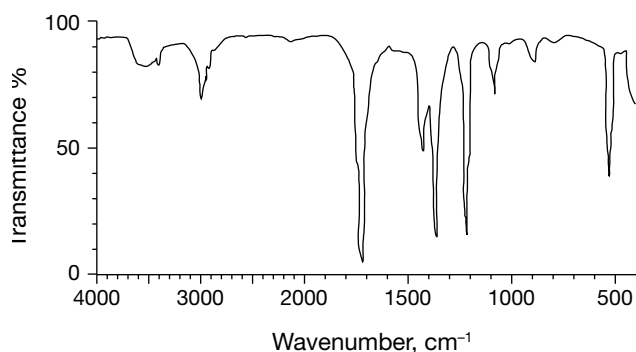

Figure 7. IR spectrum of acetone.
3. IR spectra are typically plotted as shown below (Figure 7), with percent transmittance on the y -axis versus wavenumber on the x -axis.
- (b) Is wavenumber directly or inversely proportional to energy? Label Figure 7 to show the direction of increasing vibrational energy along the x -axis.